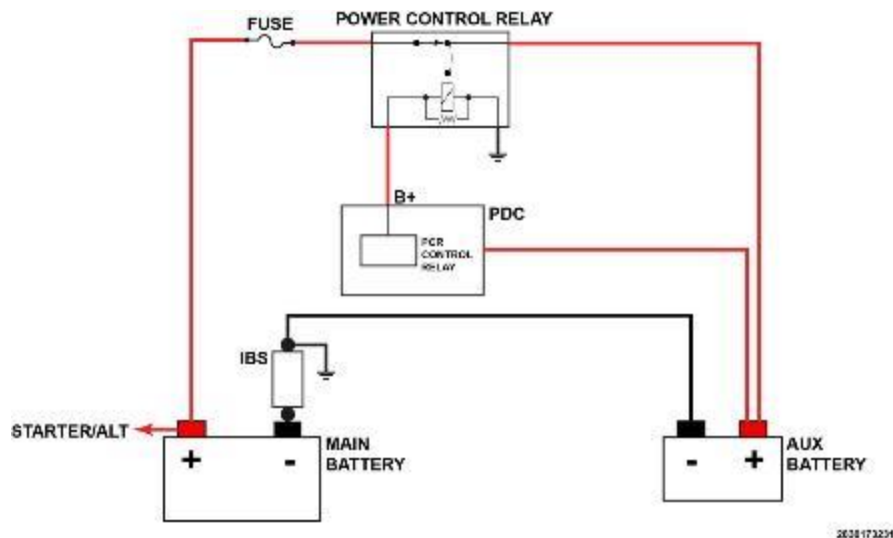

Figure 175 – Dual Battery System
1. On this dual battery system, the auxiliary battery ground cable connects to the main battery cable end (shown in generic graphic) and grounds through the main battery ground cable connection to the body, chassis or engine (depending on vehicle). Therefore, simply disconnecting and isolating the main battery negative cable clamp from the main battery post will not isolate the auxiliary from the vehicle's electrical system. The auxiliary battery will still be grounded through its connection to the main battery negative cable end. If both battery negative cables are not isolated, it will result in the vehicle electrical system and Power Distribution Center (PDC) still having battery connection which can cause vehicle wiring damage or deployment of air bags on re-connection (Figure 175). In Service Library, see 08 - Electrical / 8F - Engine Systems / Battery System / Standard Procedure / Battery Disconnect - Dual 12 Volt Battery System.